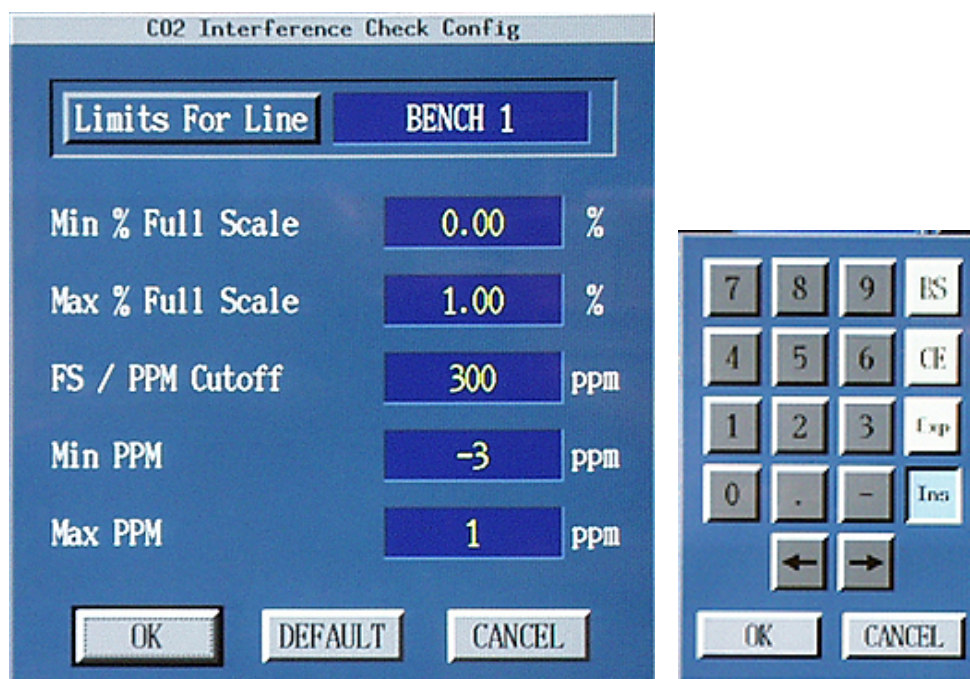

Figure 7
- 108 Click on “CO2 Configuration” button. See Figure 7.
- 109 The “CO2 Interference Check Config” screen will appear. See Figure 7.